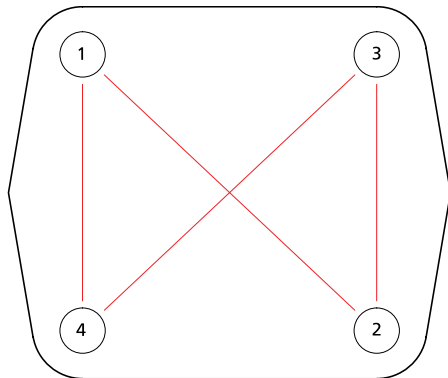

Figure 1 – Diagonally Opposing Pattern: Gradually loosen nuts as shown.
2. Remove the bonnet nuts and bolts gradually loosening by following the diagonally opposing technique as shown in **Figure 1**.
7. After installing the weir onto the valve compressor, retract the compressor by rotating the actuator counterclockwise until the Diaphragm Weir/Backing combination is pressed against the bonnet (about 1-2 full turns). Install the bonnet bolts and hardware and torque to the values listed in Table 1 following the diagonally opposing pattern shown in **Figure 1**. NOTE: As hardware and bonnet configurations vary, Newman recommends that the diaphragm be installed to minimum torque values as recommended in the relevant OEM literature. If leakage occurs at the diaphragm/valve body interface, torque should be increased until no leakage is observed.
1. Make multiple passes using the diagonally-opposing pattern shown in Figure 1 to gradually tighten the Bonnet Bolts.
Prior to pressurization (with the valve open), the bonnet bolts must be fully torqued according to the diagonally opposing pattern in Figure 1 and Table 1 with the valve slightly open. Retightening the bolts appropriately at ambient conditions